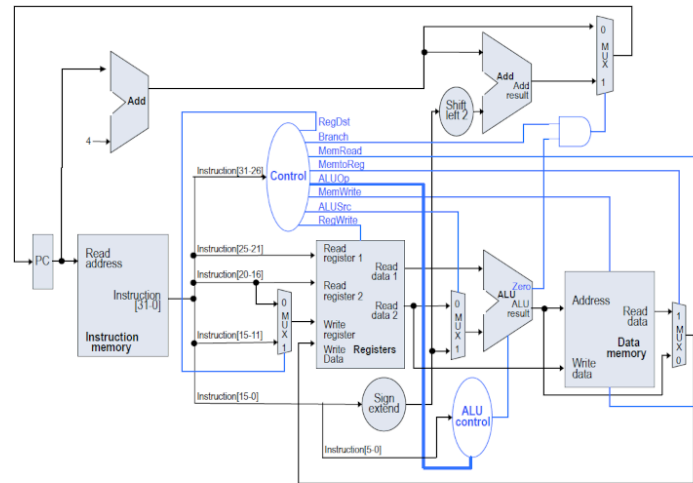

Figure 1: Referenced Single Cycle CPU
- Figure 1 describes the CPU data path.